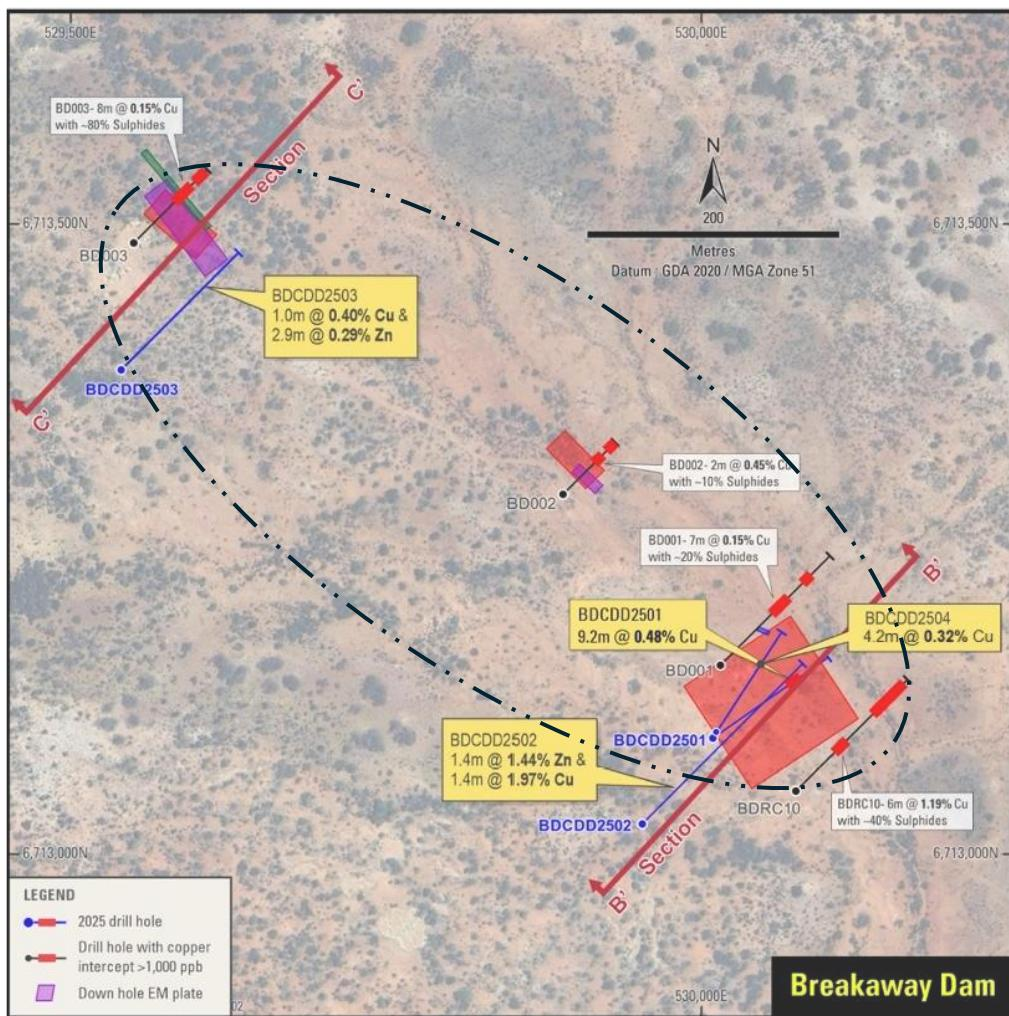

Figure 2. Plan view of BDC Central Zone target drill area and previous drill holes and associated results1.
- Targeted drilling of untested high-conductance EM plates proximal to BDCDD2503 (figure 2), prioritising the strongest and least tested conductors
- ~2,000 metres of systematic RC drilling across the BDC Central Zone (figure 2) to assess grade continuity beyond current EM-defined targets